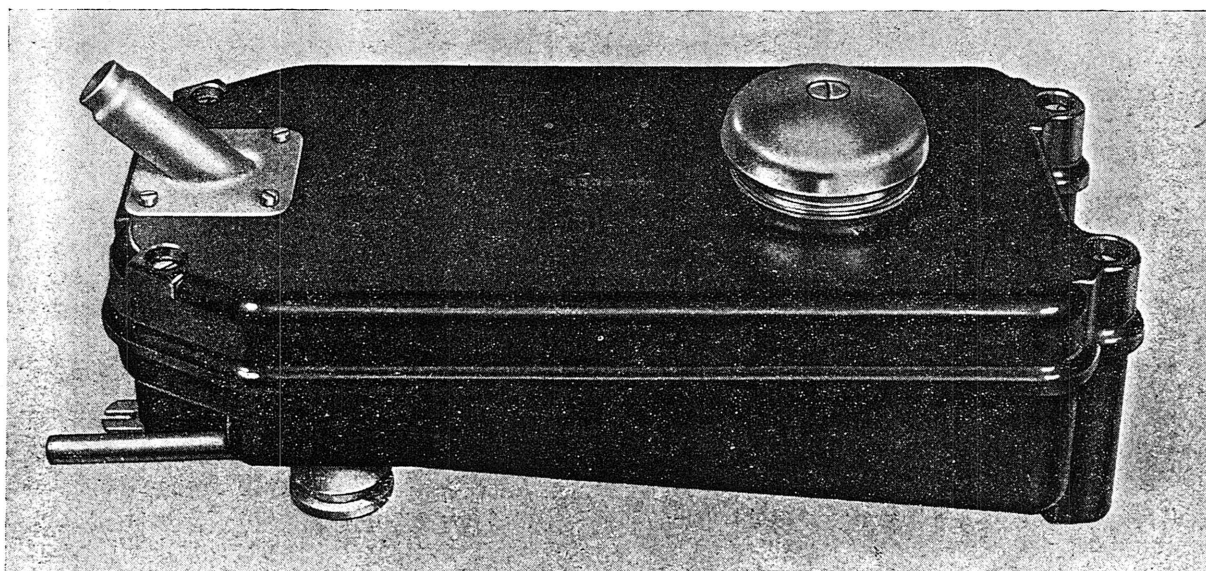

Fig. 1. Oxygen economizer, Mk. 4
3. The components of the economizer (fig. 1) are housed in a moulded case comprising a body